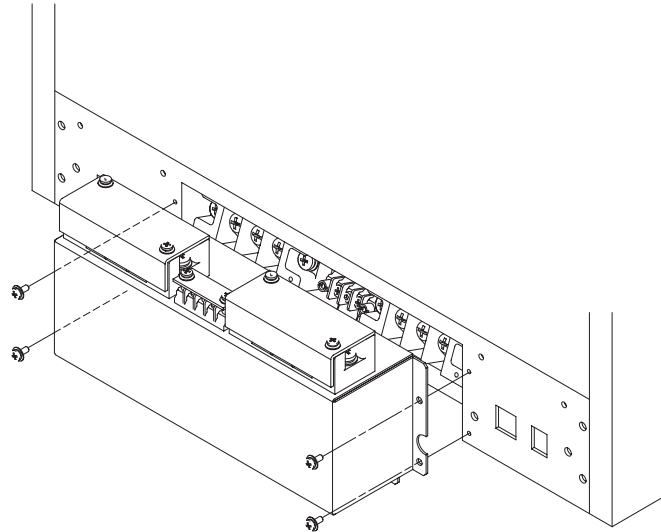

Fig. 2-2 Fixing the Parallel Terminal to the PCR-LA AC Power Supply
3. Fix the Parallel Terminal to the power supply using the screws (M3) removed in step 2 above (Fig. 2-2).